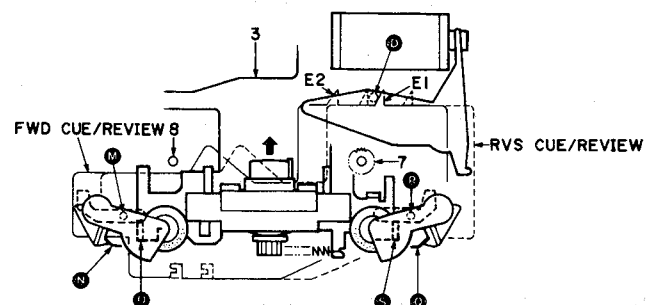

Fig. 22 (Perspective view from the front)
- 6-7) When the SUB-CHASSIS comes to the top, the SLIDER is in one of the positions of Fig. 22 shown in the diagram. In either case, the spring ⑨ ⑩ of the pinch roller (L, R) is not lifted by the SUB-CHASSIS edge ③ ④, so the pinch roller is not pressed against the capstan.